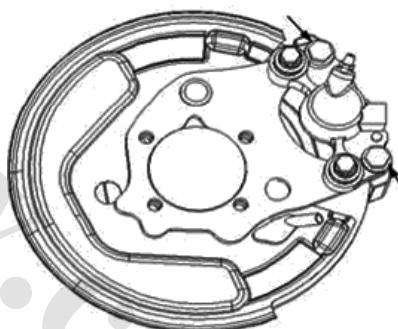

Fig. 2-70
② Install silencer pad on each brake pad.
③ The wear indicator is upwards. Install the inside brake pad, and then the outside.
① Install the rear disc brake slave cylinder by 2 bolts. See Fig. 2-70. Tightening torque: 34N·m.